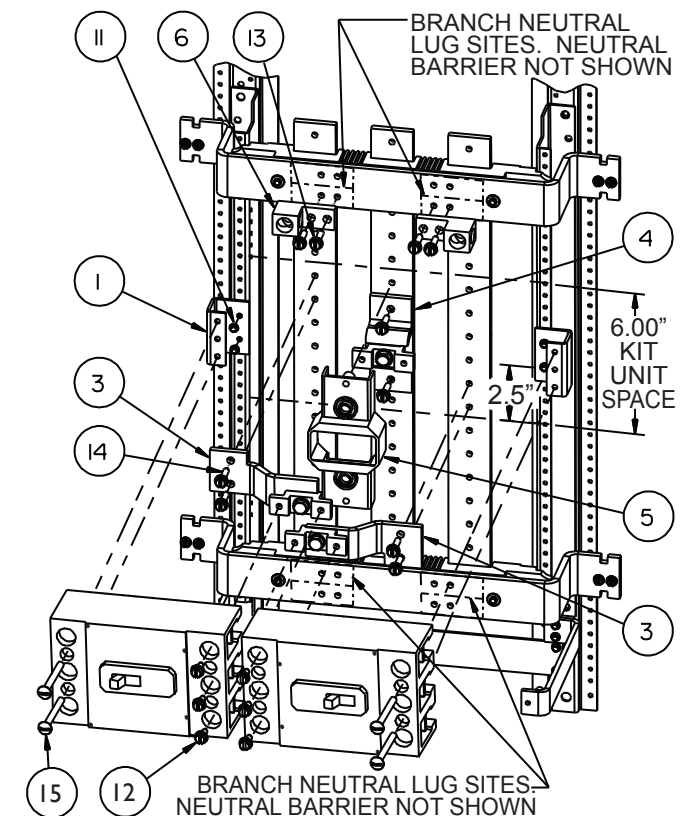

Figure 3
5. Refer to Figure 3: Fasten the breaker supports (Item 1) to the base rails in the center of the 6" kit unit space with four #8-32 screws (Item 11). Fasten the center connector (Item 4) to the middle panel bus with two 1/4"-20 x 1" screws (Item 14). Tighten the screws to the torque values on the back of the deadfront. Install the QR branch barrier (Item 5), centered over the installed connector (Item 4). Insert the barrier's two mounting pins completely into the corresponding holes on the middle panel bus. Position two Type B outer connectors (Item 3) at the two ends of the barrier (Item 5) and fasten them to the outer panel bus parts with two 1/4"-20 x 1" screws (Item 14) each.
- 7B. TO INSTALL 2-POLE BREAKERS: Breakers should be placed in the lowest position on the left side of the unit space and in the highest position on the right side of the unit space so that the operating handles fall into the same positions as the 3-pole breakers shown in Figure 3. Position the left-side mounted breaker with its "OFF"-side mounting hole aligned with the lower hole in the left-side breaker support (Item 1). Bring the "ON"-side breaker pads into contact with the lower two connectors (Item 4 & lower Item 3). Position the right-side mounted breaker with its "OFF"-side mounting hole aligned with the upper hole in the right-side breaker support. Bring the "ON"-side pads into contact with the upper two connectors (Item 4 & upper Item 3). Fasten each breaker to its support with one 1/4"-20 x 2-1/2" machine screw (Item 15). Do NOT tighten until the bus connections are made. Fasten each breaker's "ON"-side pads to the connectors with two 1/4"-20 x 1" screws (Item 14) each.